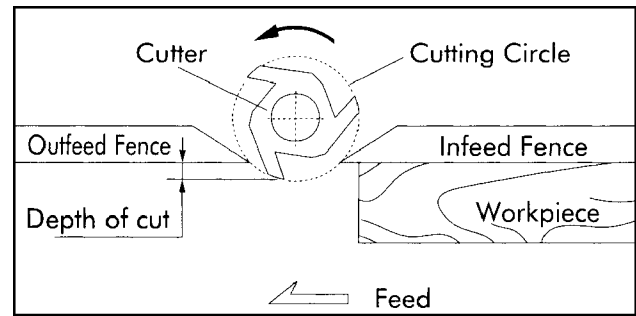

Figure 17
1. For normal work, where a portion of the original edge of the stock is not touched by the cutter, both the infeed and outfeed fences are in a straight line, as shown in Figure 17.